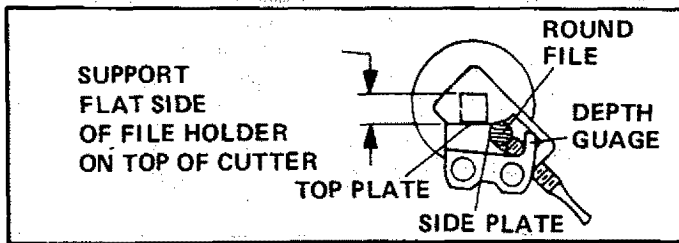

Figure 38
- a.) Support flat side of file holder (with 7/32" round file) on cutter top plate. Figure 38.